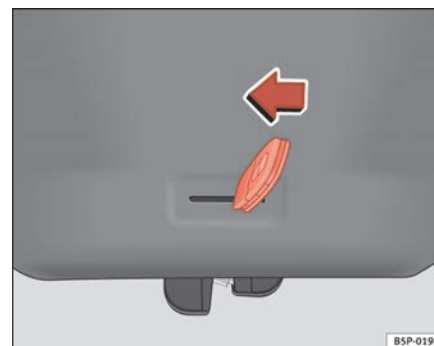

Fig. 67 Tailgate: emergency open
- Insert the key bit in the groove and unlock the locking system, turning the key from right to left, as shown by the arrow ⇒ fig. 67. ■